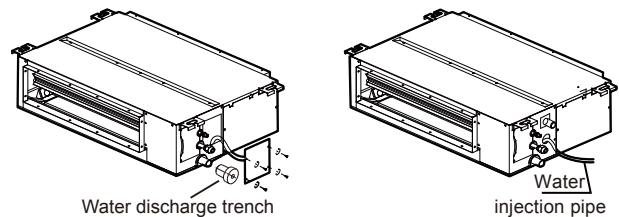

Figure 5.5
4. Open the test water cap, continue to add water (Figure 5.5 shows the water inlet) until the alarm for excessive water levels is triggered. Check if the drainage pump drains water immediately. After three minutes, if the water level does not fall below the warning level, the unit will shut down. At this time, you need to turn off the power supply, and drain away the accumulated water before you can turn on the unit normally.